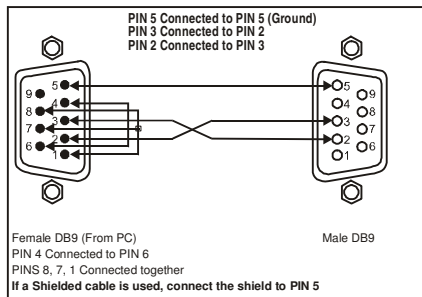

Figure 4: Connecting a PC without using a Null-modem Adapter
- Connect the RS-232 DB9 port on your PC to the RS-232 DB9 rear panel port on the **VS-401YC**, as Figure 4 illustrates